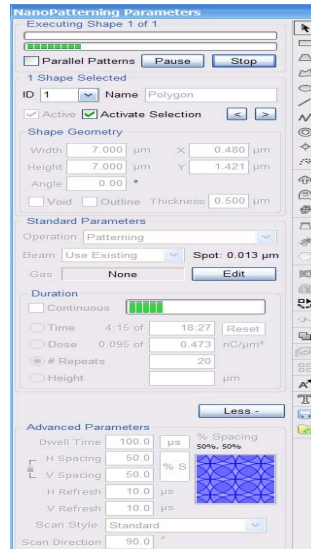

Figure 2: NanoPatterning parameter control panel
Figure 2 shows the NanoPatterning parameters control panel. All options such as shape parameters and execution control are easily accessible via the icon bar on the right. For each shape the dimensions, patterning parameters such as dwell time, spacing, refresh times (for deposition) and scanning strategies can be set up individually per shape. Saving and restoring shapes is possible at any time.
- Various patterns generated using the parameter control panel of Figure 2 :